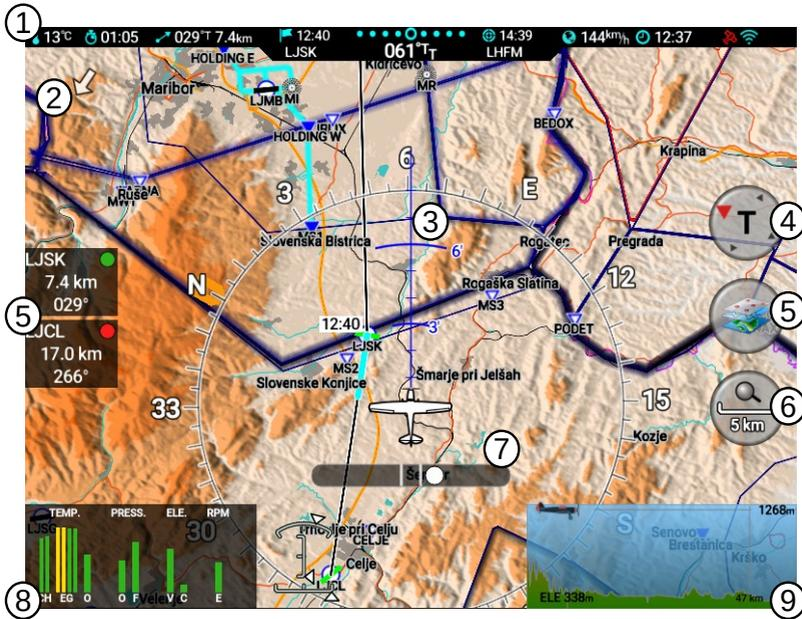
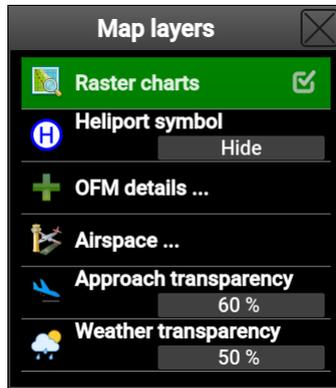

Figure 6: Illustration of the navigation screen.
Figure 11: The Map layers window.
Figure 6 illustrates an example and defines the main elements of the screen.
Certain map layers can be enabled or disabled and some of them can be tuned. Touching the map layers button (Figure 6, option ⑤) opens a window shown in Figure 11.